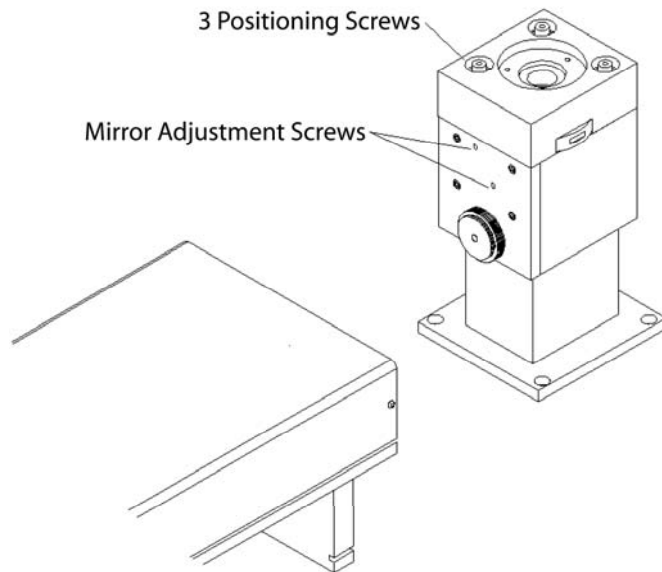

Figure 4. Beam Launch Mount Adjustments
4. Adjust the Beam Launching Mount Mirror Adjustment Screws with a 2-mm ball driver (Figure 4). Try to center the beam on the cross wires.